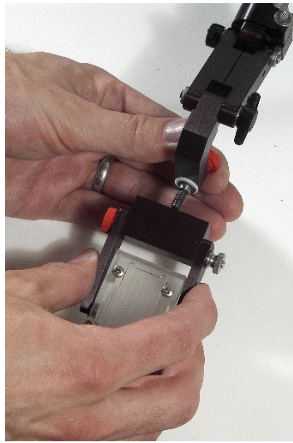

Figure 2-7 Installing the probe fork on the Y-axis
13. Install the yoke onto the probe holder (see Figure 2-7 on page 23).